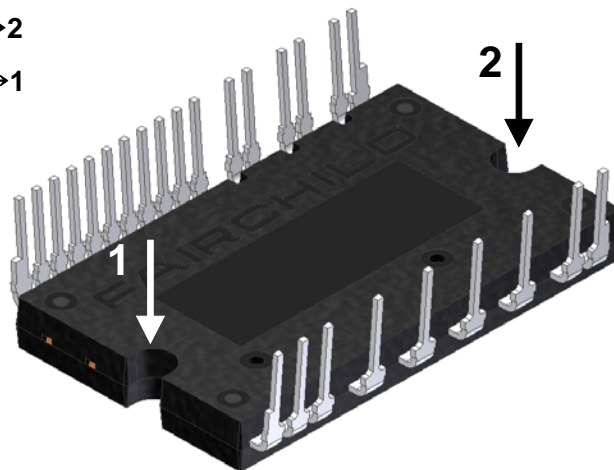

Figure 10. Mounting Screws Torque Order
10. Avoid one side tightening stress. Figure 10 shows the recommended torque order for mounting screws. Uneven mounting can cause the ceramic substrate of the SPM® 45 package to be damaged. The pre-screwing torque is set to 20 ~ 30% of maximum torque rating.